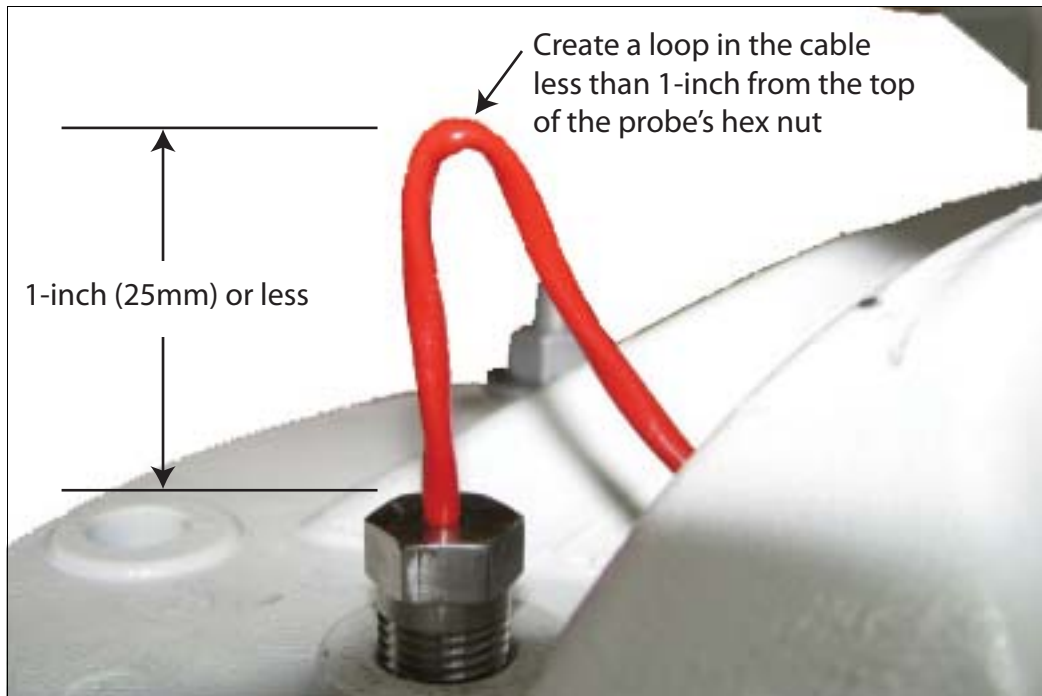

Figure 29. Preparing The Temperature Probe's Cable For The Protective Cap
5. Install the temperature probe's vinyl cap (P/N 514100-485) over the temperature probe cable by making a small bend in the cable no more than one inch above the probe's hex nut (see Figure 29).